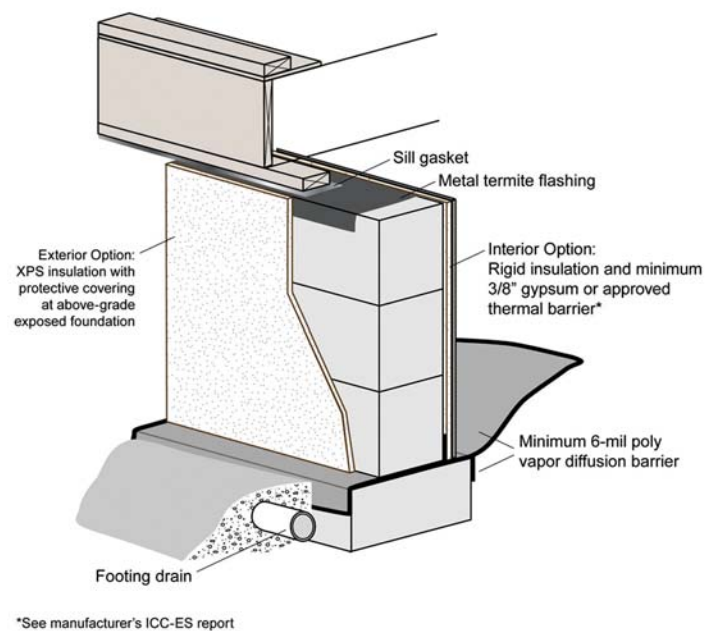

Figure 1 – Insulated crawlspace.
- Crawlspace foundation insulation (interior or exterior wall surface). (See Figure 1.)